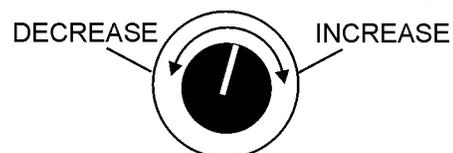

Figure 45. Voltage Adjust Control Knob
5. Use the voltage adjustment control knob (Figure 45) to increase or decrease the desired voltage.